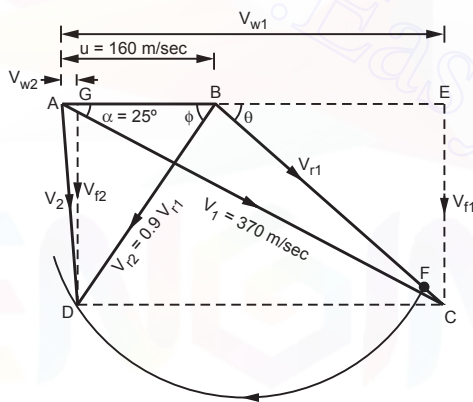

Fig. 3.19
- Consider a suitable scale as **1 cm = 50 m/sec** and draw velocity triangles as shown in Fig. 3.19.